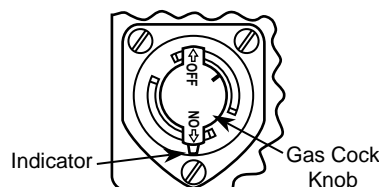

Figure 7. Gas Cock Knob
6. Push in gas control knob slightly and turn clockwise to **OFF** (see Figure 7).
7. Wait five (5) minutes to clear out any gas. If you then smell gas, **STOP!** Follow **B** in the precautionary information above. If you don't smell gas, go to next step.